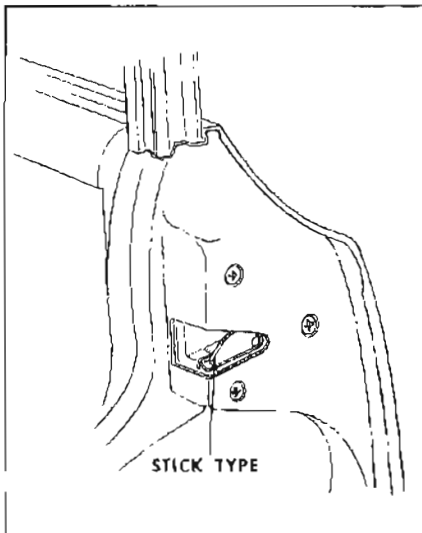

Figure 1-14—Door Lock Fork Bolt Lubrication
5. Door Lock Fork Bolt - Wipe off dirt and apply a thin coat of stick type lubricant to contact point as shown in Figure 1-14.